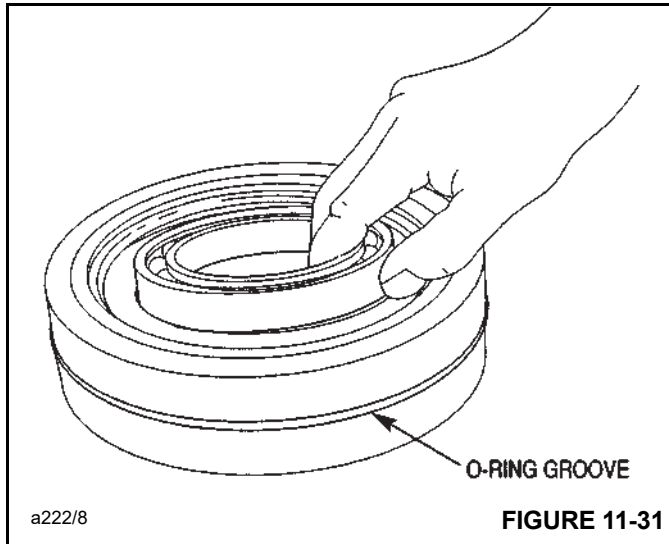

FIGURE 11-31
- 10. Install a new bearing (Figure 11-31) in the drum closure as required. Use sealant on the outside surface of the oil seal. Install with spring side of the seal toward bearing, using a flat plate to avoid distortion.
Install a new O-ring (Figure 11-31) in the groove on the O.D. of the drum closure.